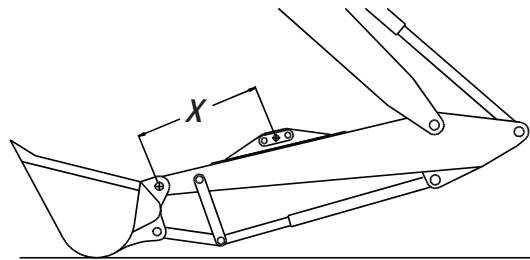

FIGURE 3-4
10. Use the bucket cylinder to position the mounting pad along the bottom of the stick to obtain the proper distance from the main pin to the center hole of the mounting pad. This distance is shown in the Parts Catalog. See Figure 3-4.
11. Use the mounting dimension provided in the parts catalog to locate the mounting pad on the bottom of the stick (see dimension "X" in figure 3-4). The mounting pad should be centered and parallel with the width of the stick.